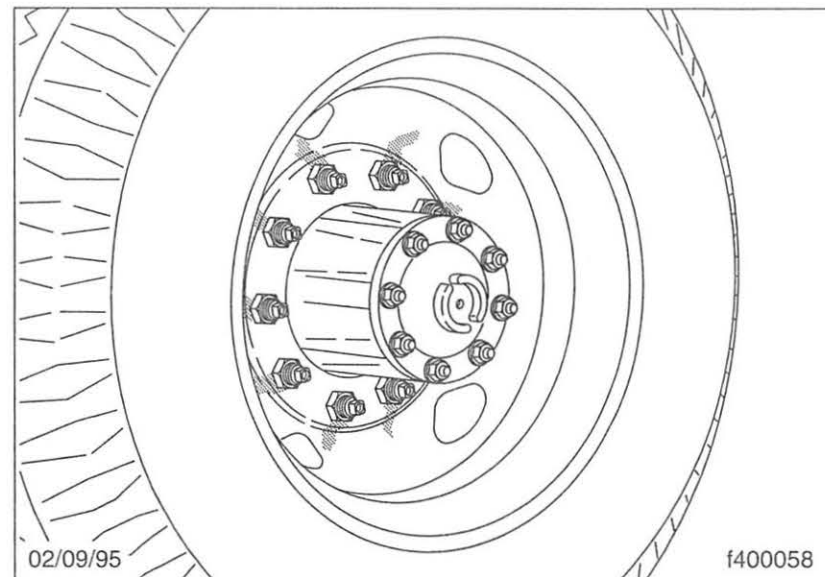
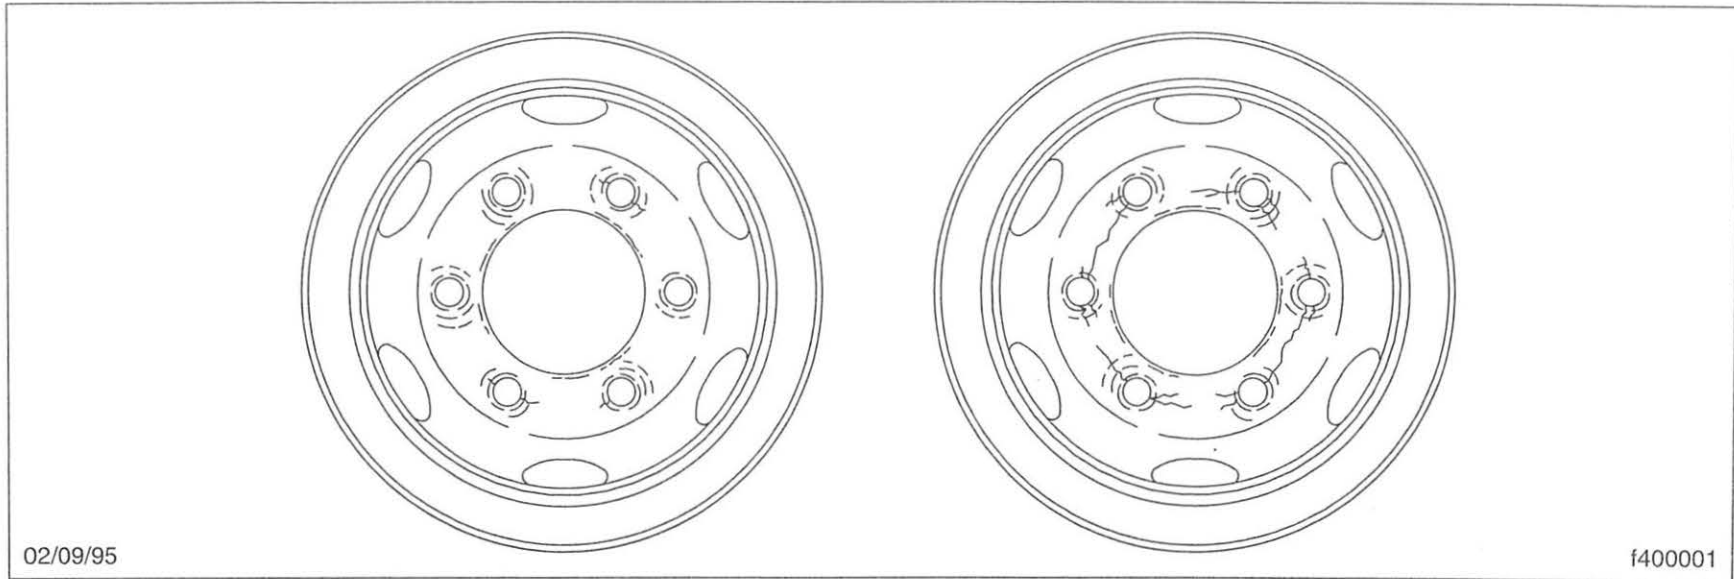

Fig. 11.22, Dirt and Rust Streaks from the Stud Holes
Fig. 11.23, Worn Stud Holes
34.1 Remove all dirt and foreign material from the assembly. Dirt or rust streaks from the stud holes (**Fig. 11.22**), metal build-up around stud holes, or out-of-round or worn stud holes (**Fig. 11.23**), may be caused by loose wheel nuts.